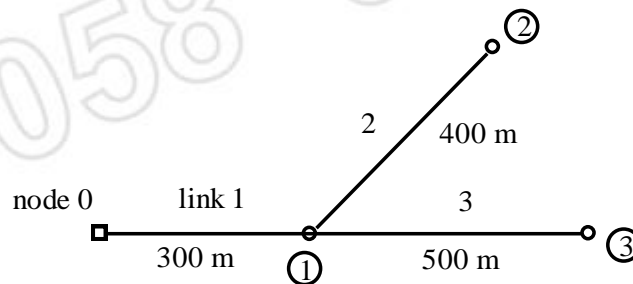

Fig. 3
9. In the network as shown fig. 3 node '0' is a source node with a constant HGL value of 100.0m and nodes 1, 2 and 3 are demand nodes with the minimum HGL values of 91.0 m, 89.0 m and 87.0 m respectively. The demand in  $m^3/sec$  in these nodes respectively as 0.3, 0.35 and 0.45, The pipe lengths are given in the fig. The  $C_{HW}$  in Hazen William head loss formula is 100 for all the pipes. The cost function is  $C = 0.138D^{1.42}$  in which C is cost per m length in Rs and D is pipe dia in mm. 13